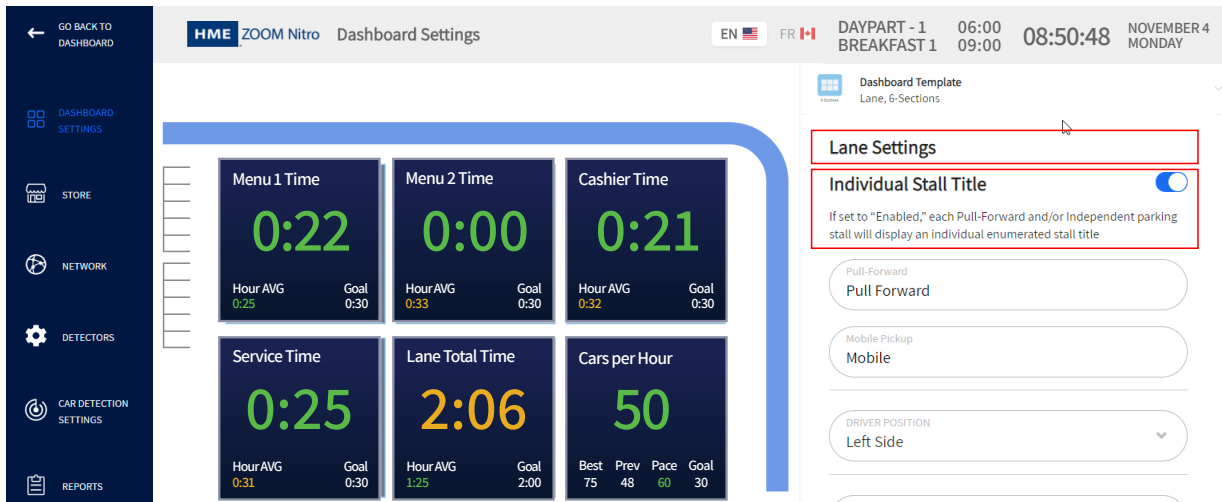

Fig. 3.13
DAYPART/SHIFT OPTION <input type="text" value="Show DP with Time"/>	DAYPART/SHIFT OPTION: Different combinations of Daypart (DP), Shift, and Time can be selected here to be displayed at the top of your Dashboard screen (see Fig. 3.13).